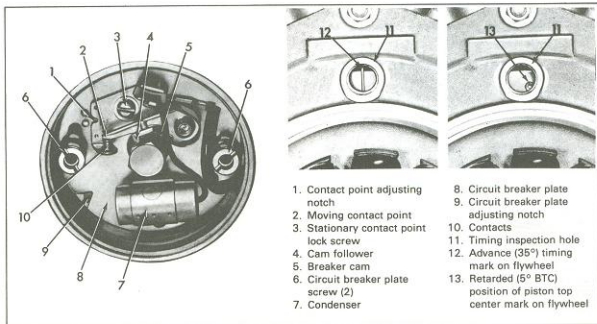

Figure 5-18. Circuit Breaker and Timing Gears
ADJUSTING POINTS (Figure 5-18)
CHECKING ADVANCED TIMING WITH STROBE TIMING LIGHT (Figure 5-18)
CHECKING RETARDED TIMING WITH CIRCUIT TESTER (Figure 5-18)
The narrow lobe cam is now at the approximate point at which contacts (10) open and front cylinder ignition spark occurs. When the wide cam lobe opens the points, rear cylinder ignition spark occurs. Connect a circuit tester such as a light bulb across the contact points to determine the exact point of contact opening. Loosen circuit breaker plate screws (6) just enough to shift circuit breaker plate (8) using a screwdriver in notch (9), so contacts will open exactly when piston top center timing mark (13) is aligned in inspection hole (11) as shown in Figure 5-18.